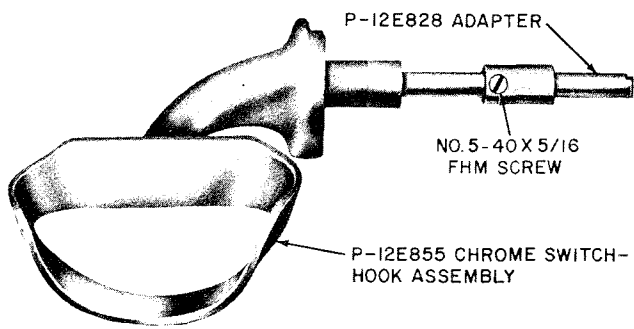

Fig. 35—2-Piece Switch Hook
- (1) Perform operations outlined in 3.44 (1).
- (2) Loosen the flathead screw which secures P-12E828 adapter (Fig. 35) to the switch hook shaft.
- (3) Slide switch hook to left and out of bearing.
- (4) Slide adapter to left and out of bearing.